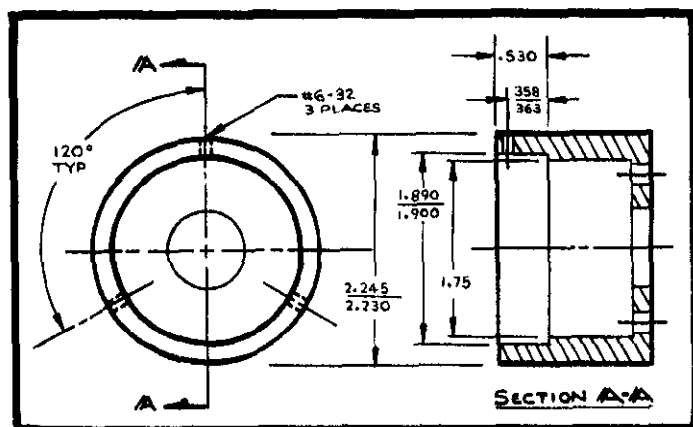

FIGURE 5. Dimensions of Input Housing.
a.) Custom Connections. The input housing has been designed to easily adapt for use with ion chambers and other applications where high input impedance and low capacitance is required. Dimensions of the input housing are given in Figure 5.